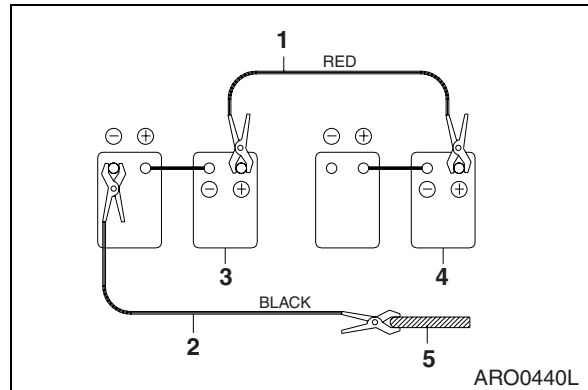

Figure 13
2. Connect one end of red cable (1, Figure 13) to the positive (+) terminal of the machine batteries, and the other end to the positive (+) terminal of the booster batteries.
3. Connect one end of black cable (2, Figure 13) to the negative (-) terminal of the booster batteries, and then make ground connection to the upper frame of the machine to be started with the other end of black (-) cable (2, Figure 13). When making the last connection to upper frame, be sure to connect the cable end as far away from the machine batteries as possible. **DO NOT CONNECT DIRECTLY TO THE NEGATIVE BATTERY TERMINAL.**
1. Disconnect black negative (-) cable (2, Figure 13) from the machine frame first.
2. Disconnect the other end of black negative (-) cable (2, Figure 13) from the booster batteries.
3. Disconnect red positive (+) cable (1, Figure 13) from the booster batteries.
4. Disconnect red positive (+) cable (1, Figure 13) from the machine batteries.